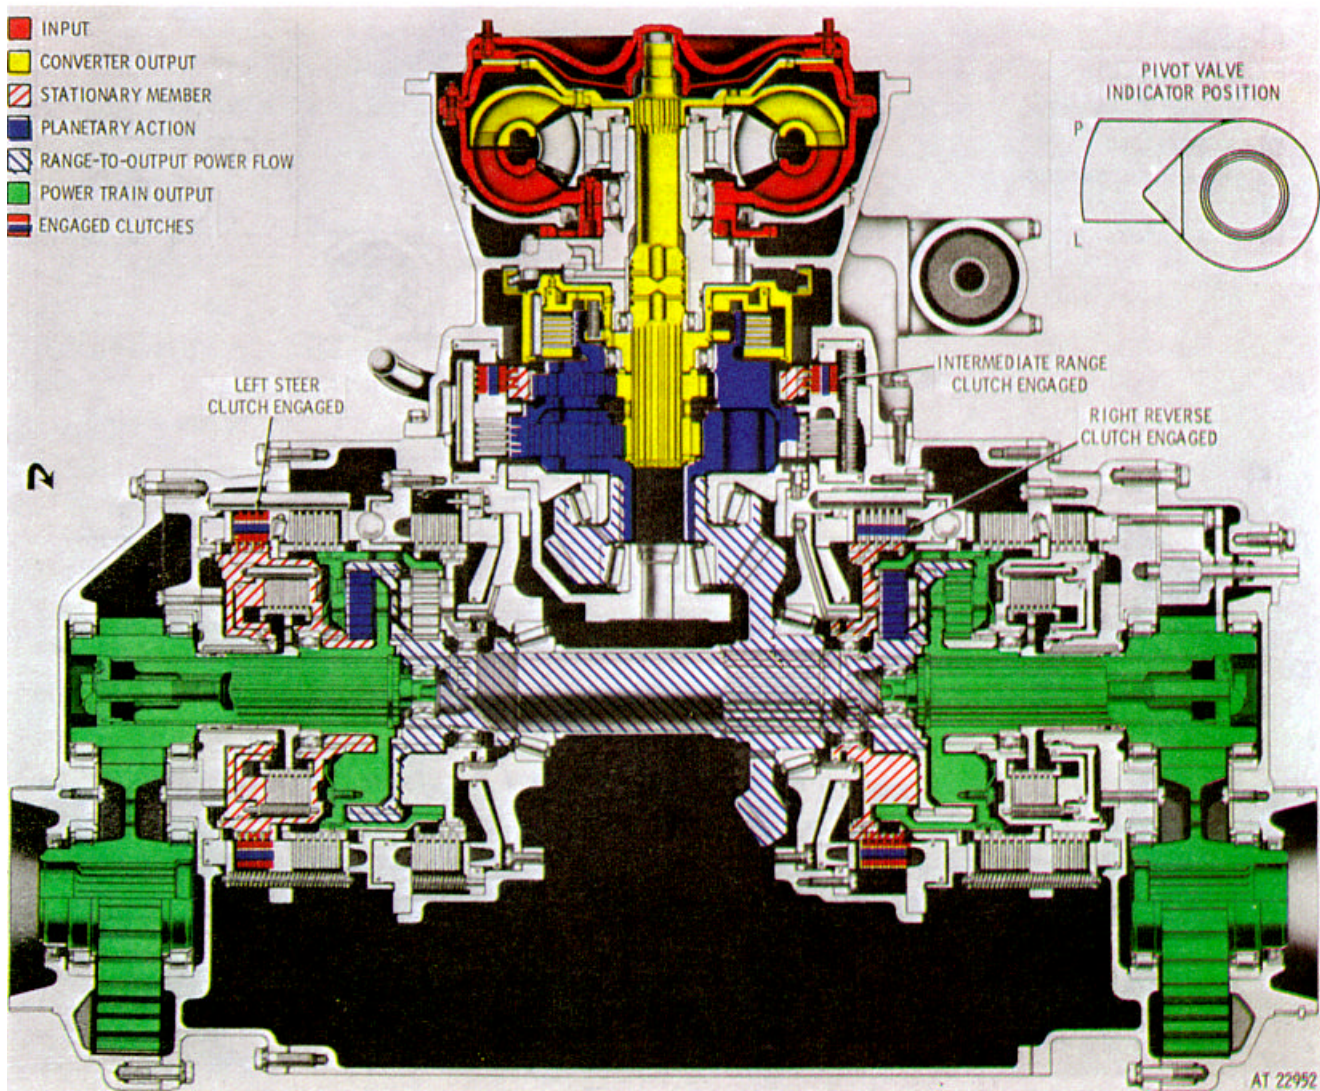

Figure 2-25. Reverse-1 gear, normal right steer operation-torque path.
(3) In fourth gear, normal left steer operates in the same manner as right steer except that the actions described in (1) and (2), above, take place in the opposite side of the transmission. (The left steer clutch is engaged, while the right output clutch drives as in fourth-gear straight travel.)
e. Reverse 1 Gear, Normal Right Steer (fig. 2-25).
(3) Reverse-1 gear, right pivot steer is identical with reverse-1 gear, normal right steer as described in paragraphs 2-51e (1) and (2), and illustrated in figure 2-25.